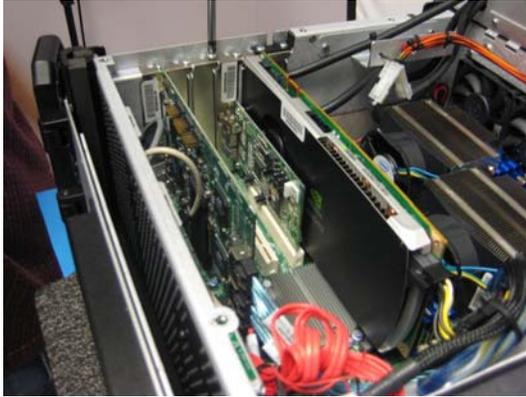

Figure 3-48
- 2) If you are replacing an existing PCI card, use a Phillips #2 screwdriver to remove the 6-32 screw attaching the card's retaining bracket to the inner chassis. If you are adding a new card, remove the corresponding blanking plate screw as illustrated in Figure 3-48.